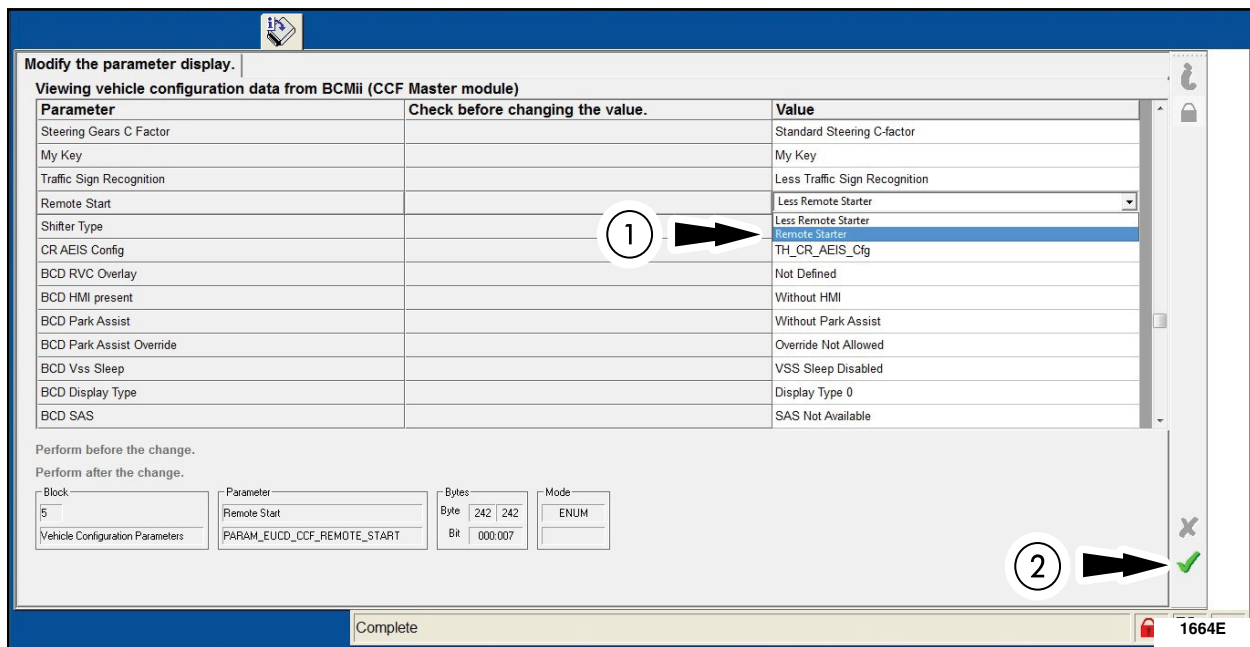

FIGURE 12
4. Identify the Remote Start parameter and change the value from Less Remote Starter to Remote Starter (1). Click the tick mark to download the data into the vehicle (2). See Figure 12.